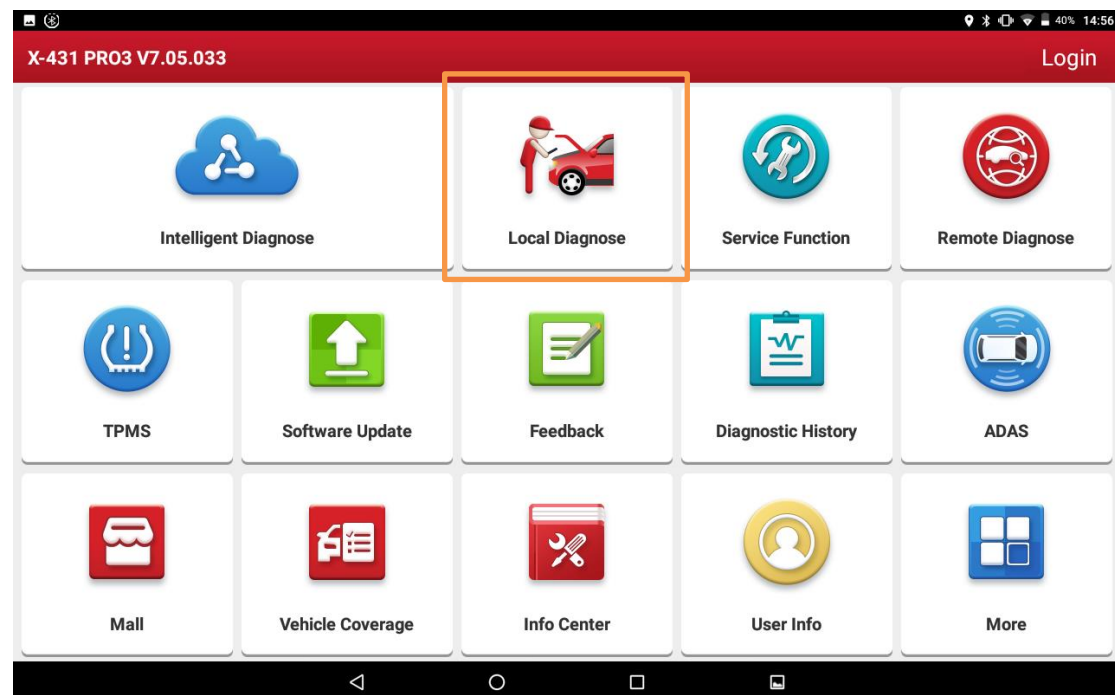
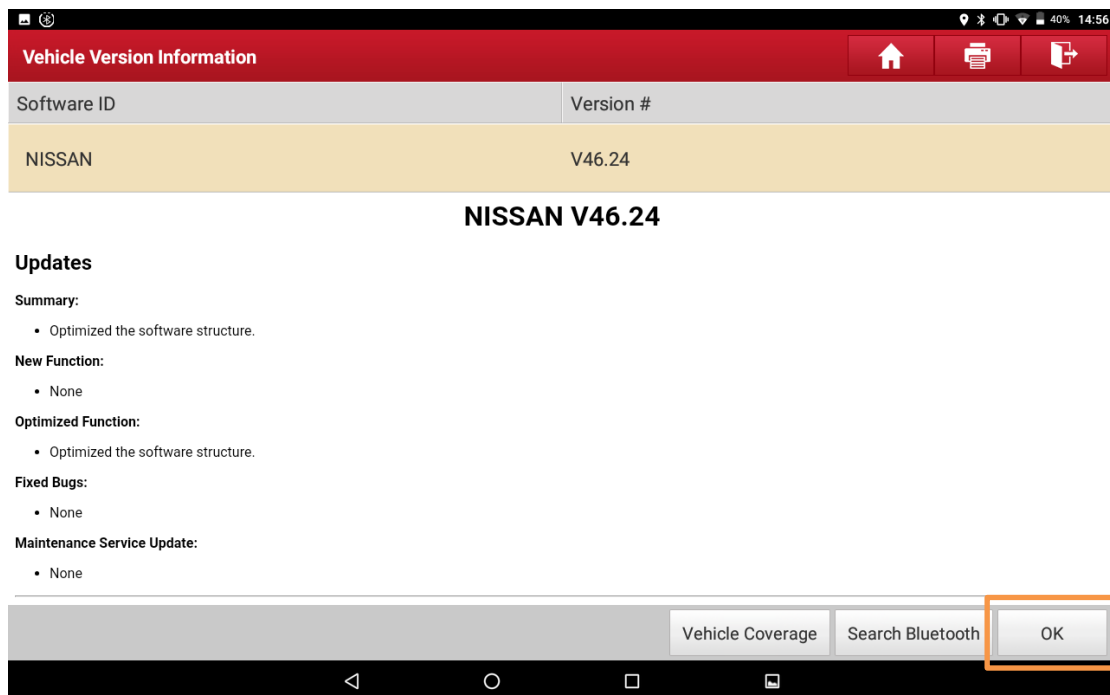
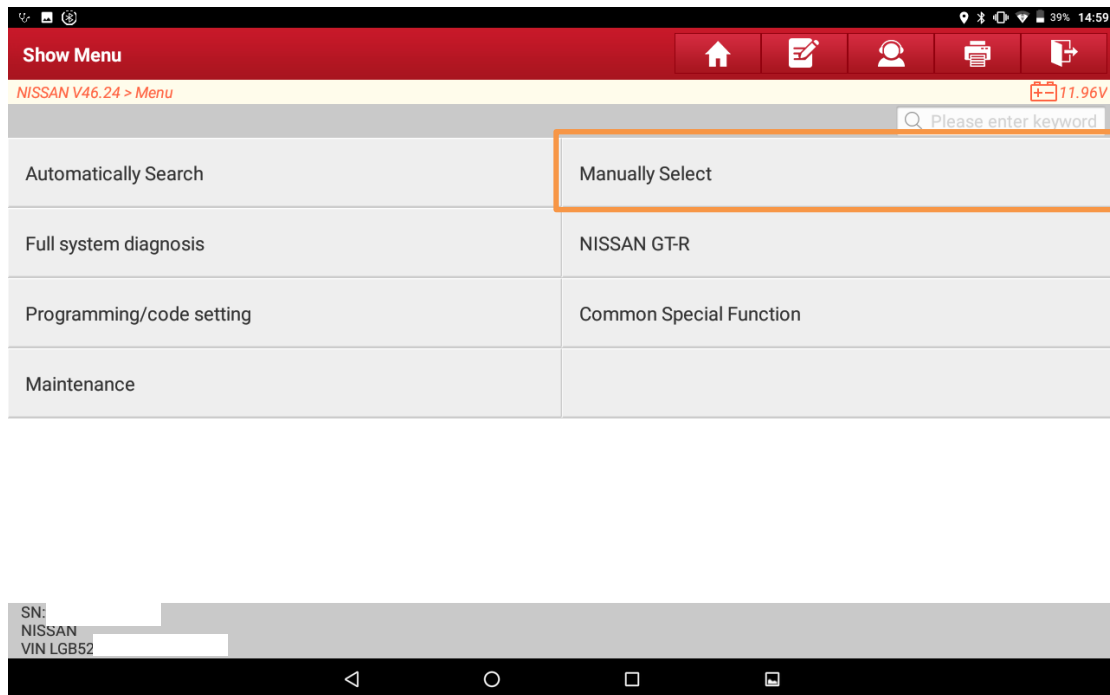

Figure 1
Figure 3
Figure 4
1. On an X-431 PRO3S+, follow the steps shown in Figure 1 to Figure 3: Choose [Local Diagnose], choose [NISSAN], and then click "OK" to enter the Nissan vehicle model menu interface (Figure 4).